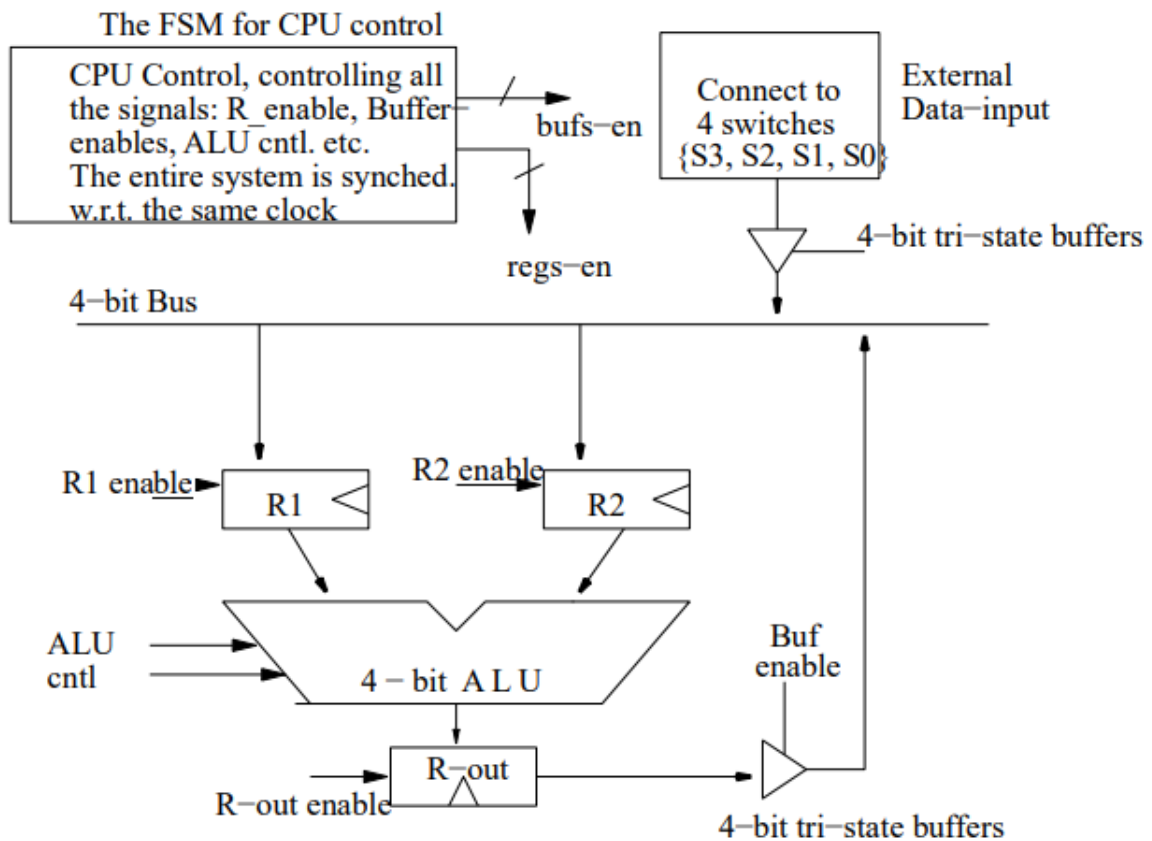

Figure 2.1: The datapath for 3700 Lab 5's 4 bit computer.
We have provided you a block diagram of the datapath (figure 2.1) to use as the 'top-level' module in your Verilog project.
- There is a 4-bit BUS that enables us to move data. In figure 2.1, that data may come from the R_{out} register or 4 switches on your FPGA.